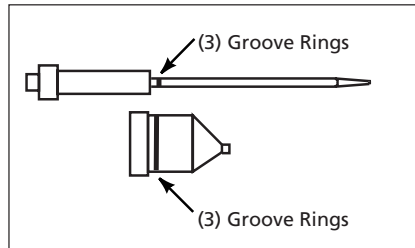

Figure 3 - All Purpose Material Needle And Nozzle Kit
3. The all purpose material needle and nozzle have three groove rings as shown in Figure 3 below.